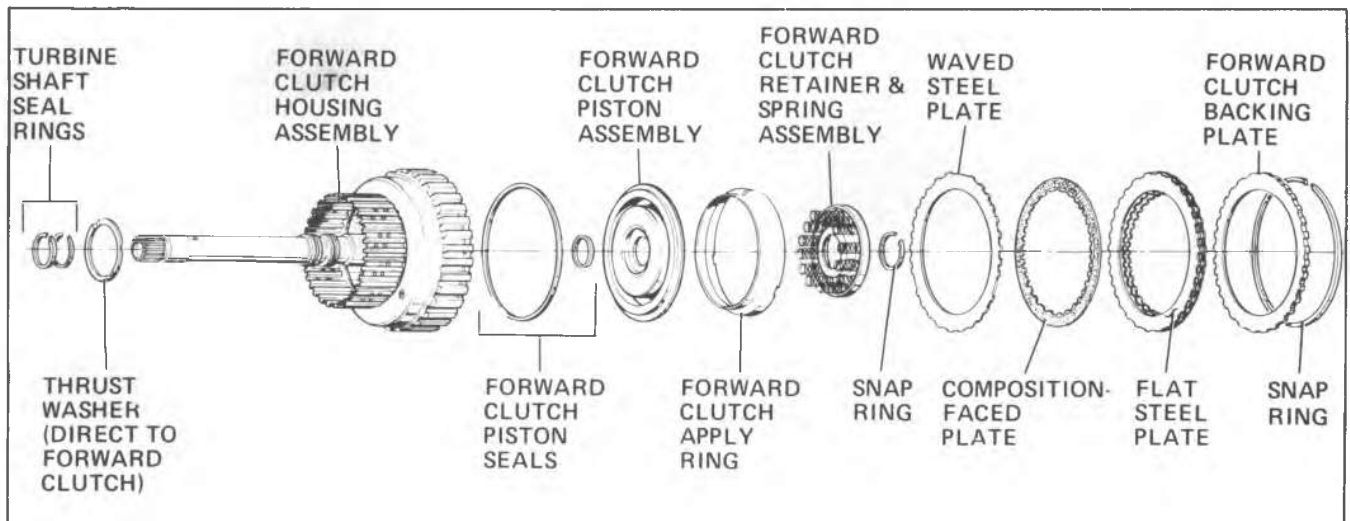

Fig. 7A-110A--Forward Clutch Assembly - Exploded View
6. Remove the clutch plates from the forward clutch housing and keep them separated from the direct clutch plates. (See Clutch Plate Usage Chart Fig. 7A-82A).